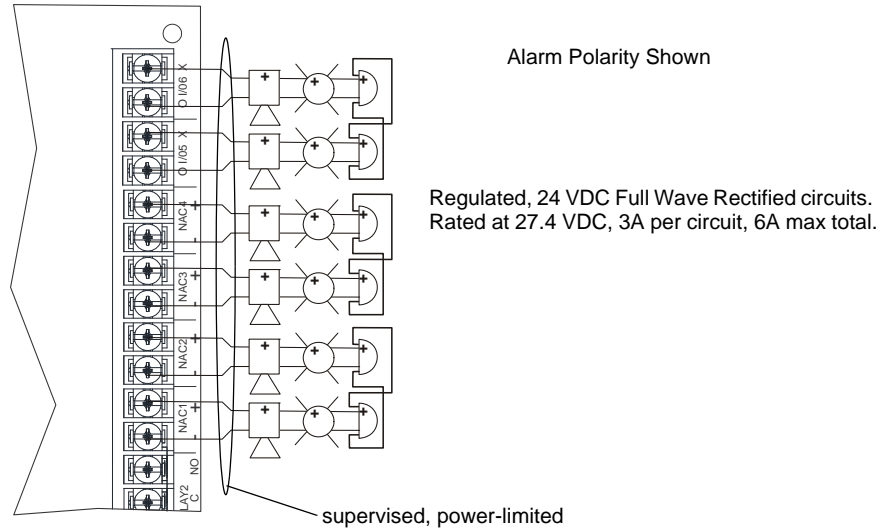

Figure 4.45 Class A Notification Appliance Circuit Configuration
1. Wire the Class A notification appliances as shown in Figure 4.45.
NOTE: In programming any point that uses multiple Flexput circuits, the lowest Flexput circuit number is used to refer to the circuit pair. For example, Figure 4.45 uses both Flexput circuit 1 and 2, so in programming, these would be referred to as point 1.